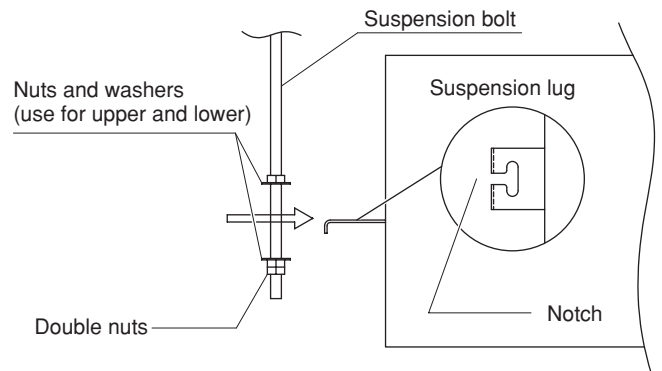

Fig. 3-86
- (3) Thread the 3 hexagonal nuts and 2 washers (field supply) onto each of the 4 suspension bolts as shown in Figs. 3-86 and 3-87. Use 1 nut and 1 washer for the upper part, and 2 nuts and 1 washer for the lower part, so that the unit will not fall off the suspension lugs.